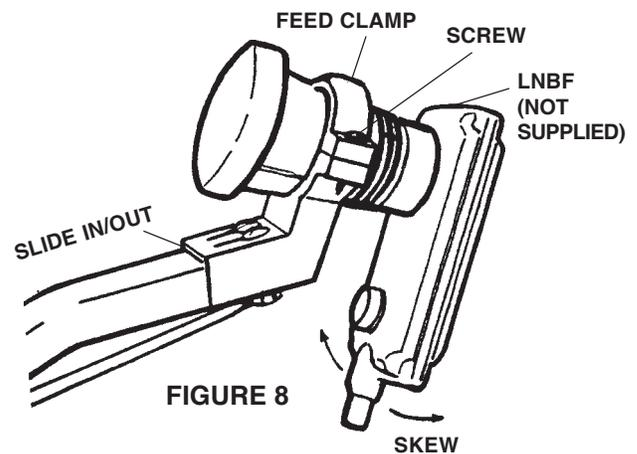

FIGURE 8
STEP 9: After adjusting antenna for best picture, slide feed clamp in and out for best reception. Tighten hex nuts. See Figure 8.
STEP 10: Skew LNBF for best reception. See Figure 8.